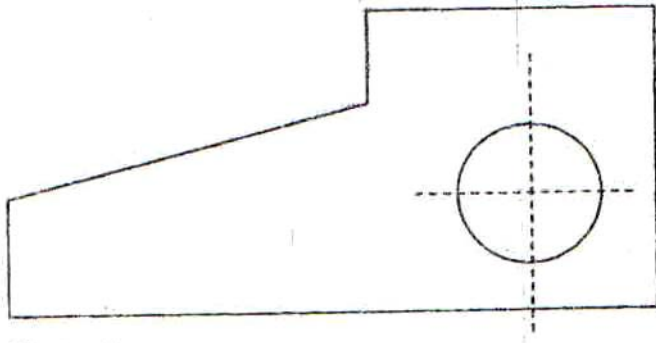

Figure 1
4. Figure 1 shows a template drawn full size.